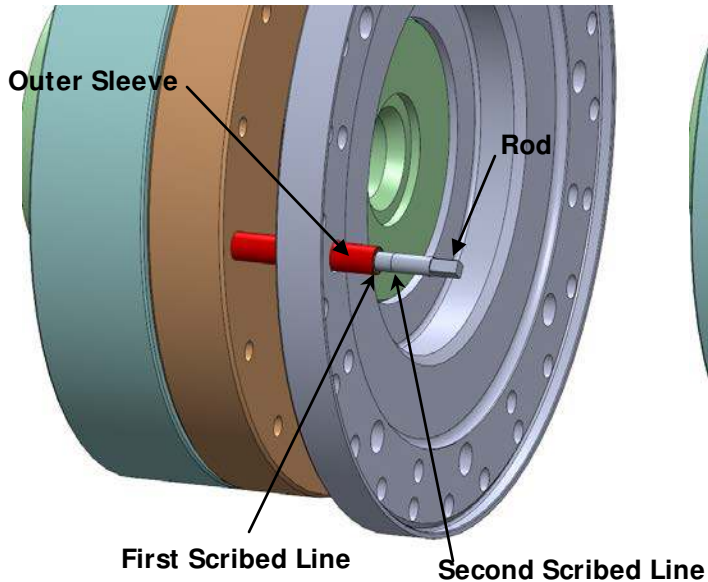

Figure 6a - Setting Initial Grip Position
3.4.11 The proper setting of the HTC is accomplished by the separation or gap between the two halves of the clamp (see Figure 1a). A special Gap Tool (Riverhawk PN 7500485) has been provided to facilitate this setting. Be sure you maintain the First Grip Position from the previous step until the tool is in place. Thread the gap tool into one of the retraction screw holes until the outer sleeve aligns with the first scribe line on the rod (see Figure 6a). The tool is spring loaded so you will need to push and turn in order to start the thread.